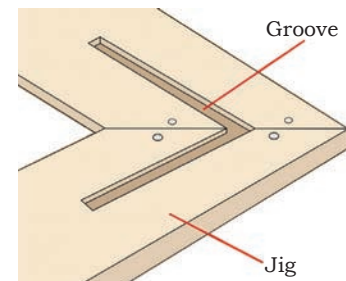

Fig. 9.35 Groove formation using a jig
- Use a jig to form grooves on the wooden frame at 90 degrees as shown in Fig. 9.35. The simplest method to make one of these is to drill two crossing holes through a piece of wood. By cutting the wood at 90 degrees through the centres of the holes, you will end up with two pieces of wood with crossing grooves as shown in Fig. 9.35.